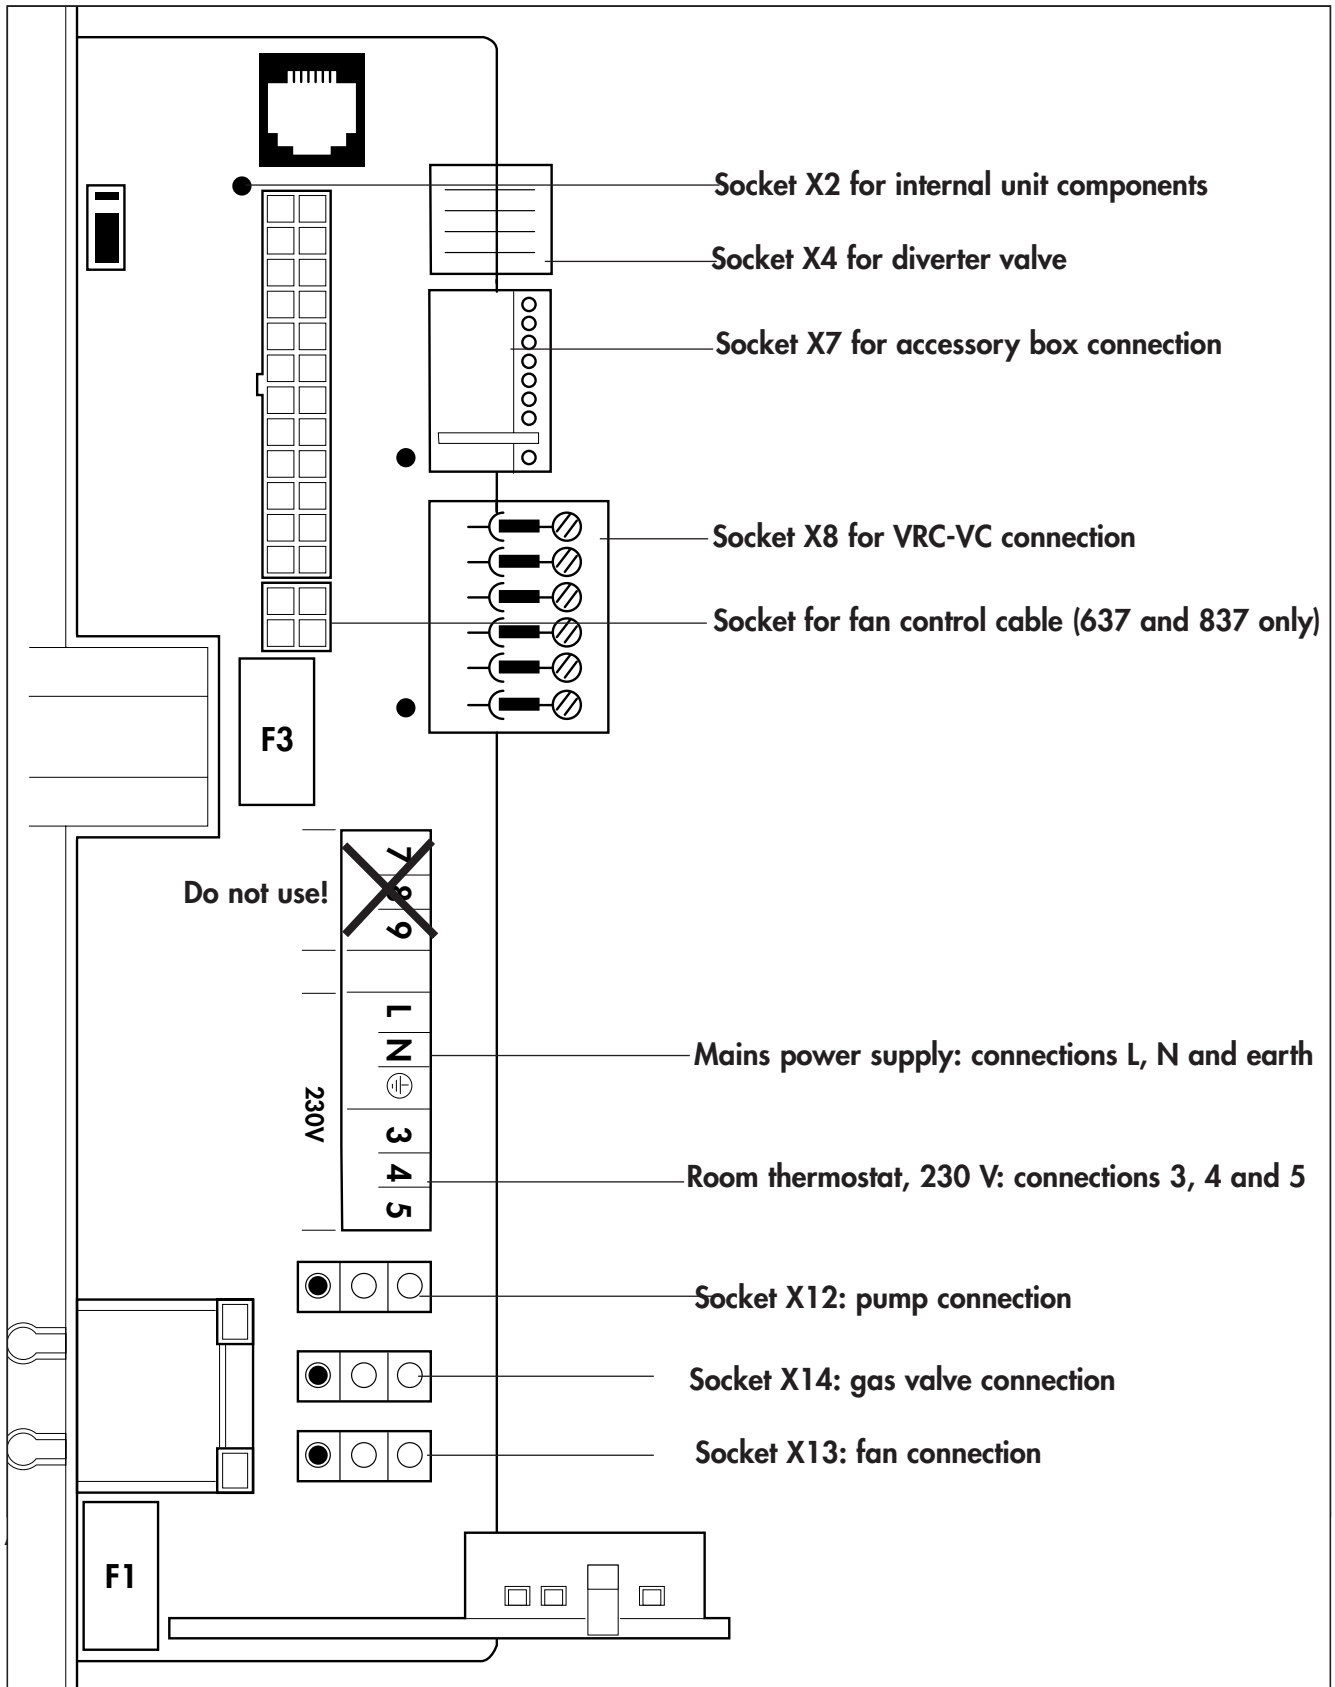

Fig. 5.13: Connection wiring
- Connect the power supply cord as follows (Fig. 5.13).